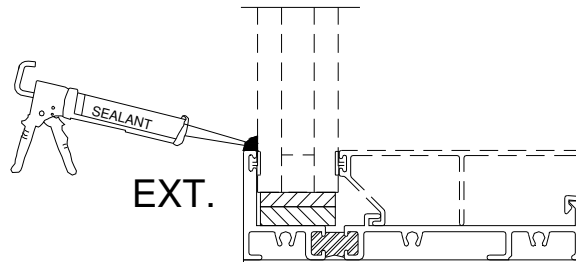

Figure 20
- After glazing, apply a continuous bead of sealant to the exterior frame and glass as shown in Fig. 20.